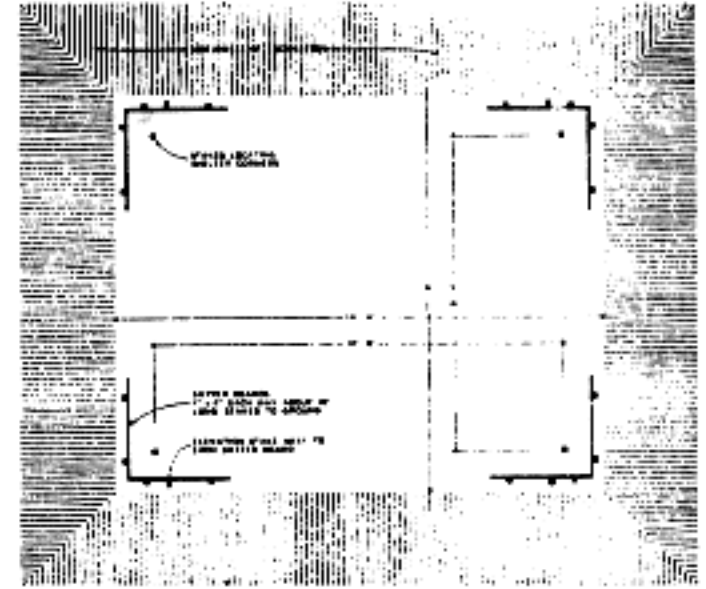
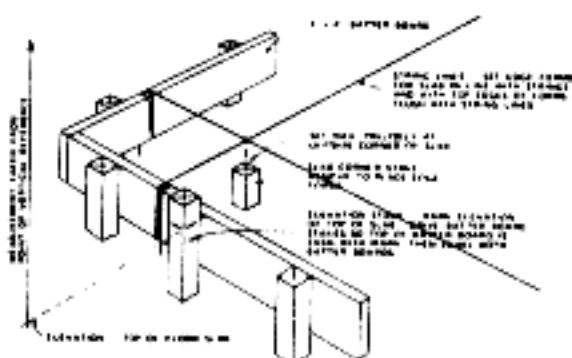

Figure 23. Plan layout for placing batter boards
Figure 24. Construction of batter boards
The elevation of the floor slab (depth below ground) is established in conjunction with placement to the edge forms. So that the edge forms for the slab can be placed and their height adjusted without working on top of the corner stakes (which could result in their being moved indifferently), batter boards are placed at the corners as shown in Figure 23. These batter boards provide a way to set the elevation of the top surface of the floor slab accurately and to align horizontally the edge form boards for the slab so that essential layout measurements are not disturbed in the process.
**Step 1.** Place a pair of 1" X 4" boards about 4 ft. long at each corner of the shelter. Position the boards at right angles to each other about 1 ft. beyond the corner stakes, as shown in Figure 23. Nail these boards to supporting stakes, as shown in Figure 24. The batter boards need not be set exactly at right angles, since they are only temporary and their purpose does not require such accuracy. The height of the top edges of the batter boards above the bottom of the excavated area should be set approximately at the height for the top surface of the floor slab. Precision for this work is not necessary at this time, for the heights will be adjusted in the next step.
**Step 2.** To set the heights of the batter boards, first place a stake just outside each batter board near the corners, as indicated in Figure 24. Drive each stake to a level slightly higher than the elevation of the top of the slab. Using a transit level or water filled hose, mark on the stake at each corner the correct height of the surface of the floor slab relative to the point of vertical reference. Adjust each batter board up or down so that its top edge is even with the mark on the stake. Then use a carpenter's level to set each segment of the batter boards to the same height and level along its length.
**Step 4.** To set the lines of string that will serve as guides for placing the edge forms of the floor slab, stretch string along each pair of corner stakes (the stakes set previously which locate the corners of the floor slab), extend the string at each end across the top edges of the batter boards as shown in Figure 24. The string crossing the top edges of the batter board, aligned with the pairs of slab corner stakes and pulled taut, this will set the line and the height of the floor slab edges. The slab corner stakes now may be removed to clear the way for forming the floor slab.